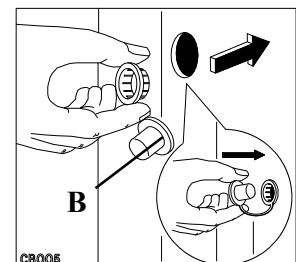

Fig. 4
- The holes which are now visible must be closed with the plugs (B) provided with the appliance (fig. 4).